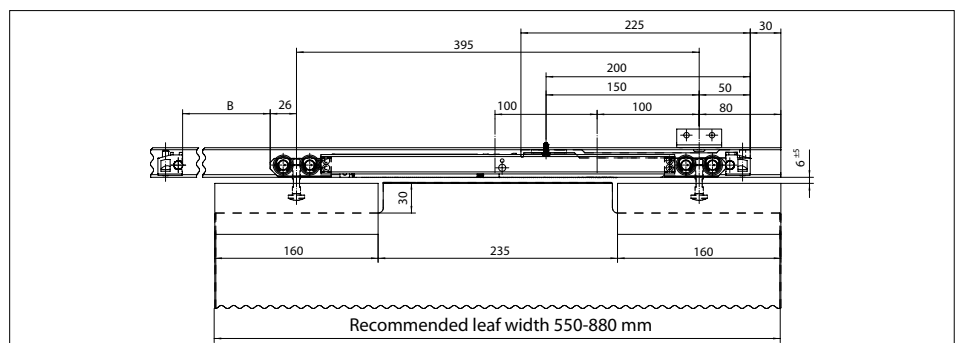

Fig. 13-5
e.g. with glass leaf, (glass with edge cut-outs), short design (1-side), damping in one direction, see Fig. 13-5